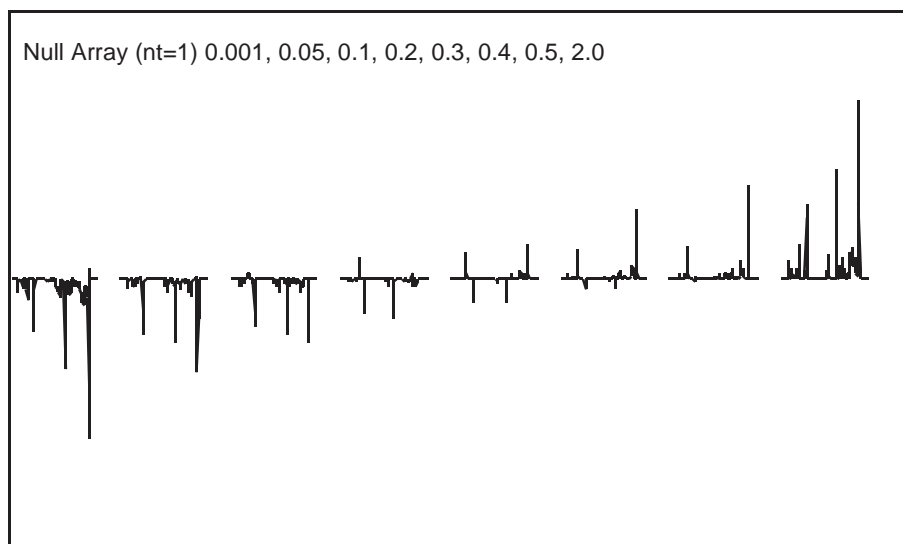

Figure 71. Optimizing the BIRD Nulling Time
8. Now, if appropriate, optimize the parameter `null`. Set `nt=1 ss=4` and enter an array of `null` values with at least one very short value (e.g., 0.001) and one very long value (e.g., 2.0). This experiment depends on the relaxation times of the spins involved. Set `at` and `d1` to the same values being used in the 2D experiment. Run the array and select the value of `null` for which either most of the peaks, or the biggest peaks, or the peaks of most interest (choose the criterion), are approximately zero; remember, no one value of `null` is correct for all peaks. Figure 71 shows this